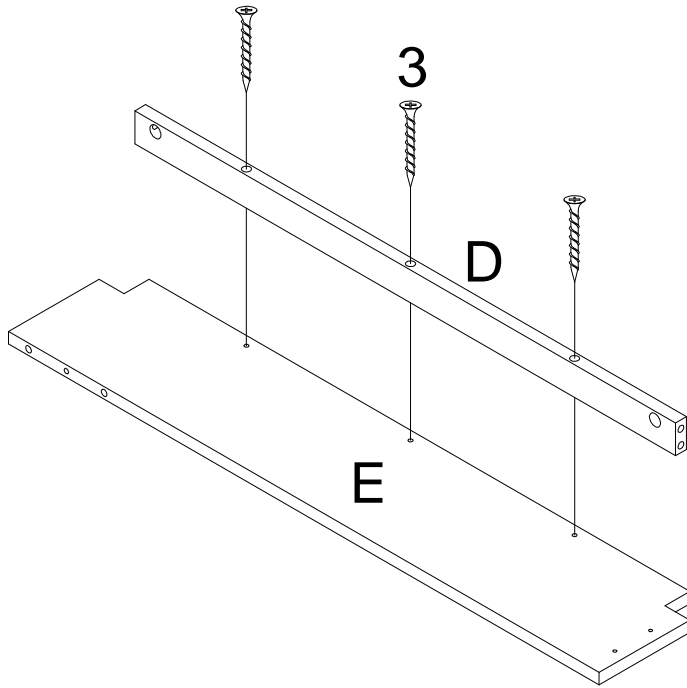
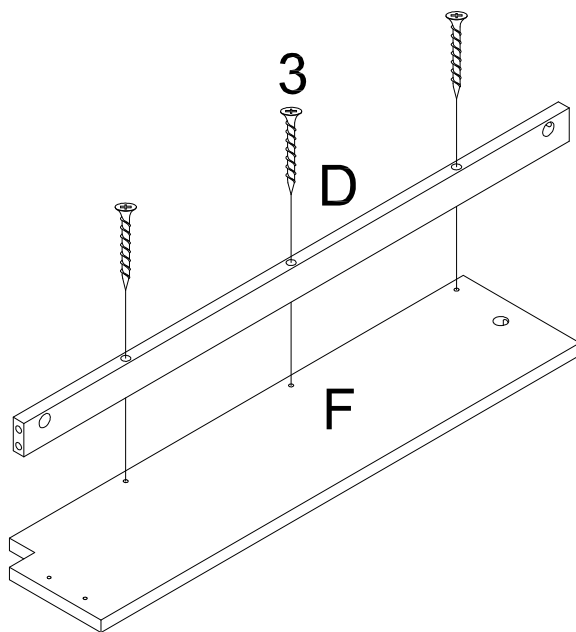

Figure 7
Figure 10
Insert cam locks (4) into corresponding holes on back panel (I) and assembled unit from figure 7. Screw cam bolts (5) into holes on left side leg (B).
Attach back panel (I) and assembled unit from figure 7 to left side leg (B) by inserting wood dowels (2) and cam bolts (5) into corresponding holes until assembled unit from figure 4 and back panel (I) and left side leg (B) meet.
Insert cam locks (4) into holes on back panel (I) and assembled unit from figure 10. Screw cam bolts (5) into holes on right side leg (C).
Attach back panel (I) and assembled unit from figure 10 to right side leg (C) by inserting wood dowels (2) and cam bolts (5) into corresponding holes until assembled unit from figure 7 and back panel (I) and right side leg (C) meet.